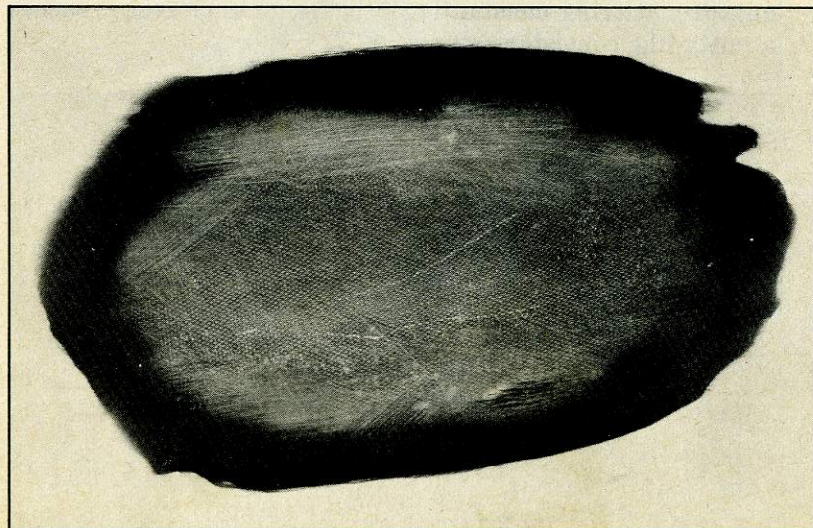

Figure 3
2. Featheredge the repair area with No. 220 wet or dry sandpaper and finish block sand with No. 320 wet or dry paper (fig. 3).